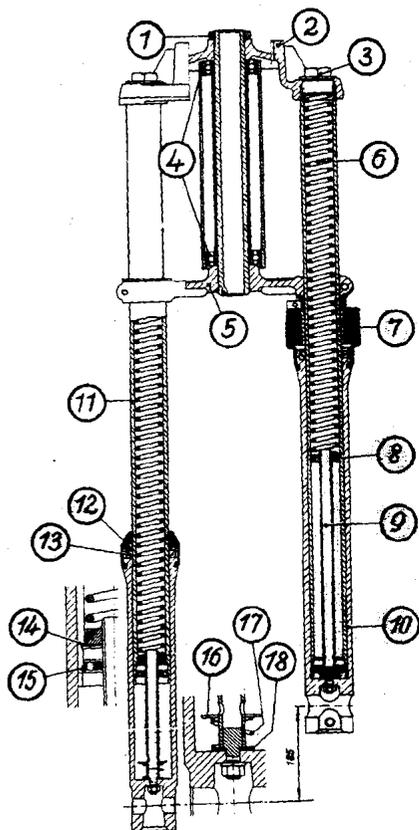

Fig. 100. Telescopic fork and steering bearing (sectional view)
NOTICE: In the later mounting of the upper and lower clamping heads, take care that the nut for the control tube (1), Fig. 100, is tightened with a torque of 150 Nm (15 kpm)!
5.3.3. Dismounting and Mounting the Complete Telescopic Fork (see Fig. 100)